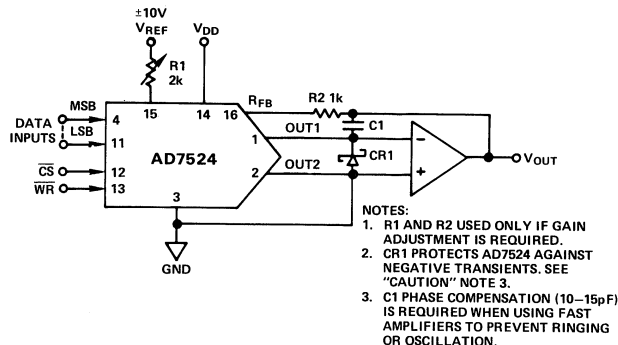

Figure 5. Unipolar Binary Operation (2-Quadrant Multiplication)
- bandwidth types) present a low impedance to V_– during power-up or power-down sequencing. To prevent the AD7524 OUT1 or OUT2 terminals from exceeding –300mV (which causes catastrophic substrate current) a Schottky diode (HP5082-2811 or equivalent) is recommended. The diode should be connected between OUT1 (OUT2) and ground as shown in Figures 5 and 6.